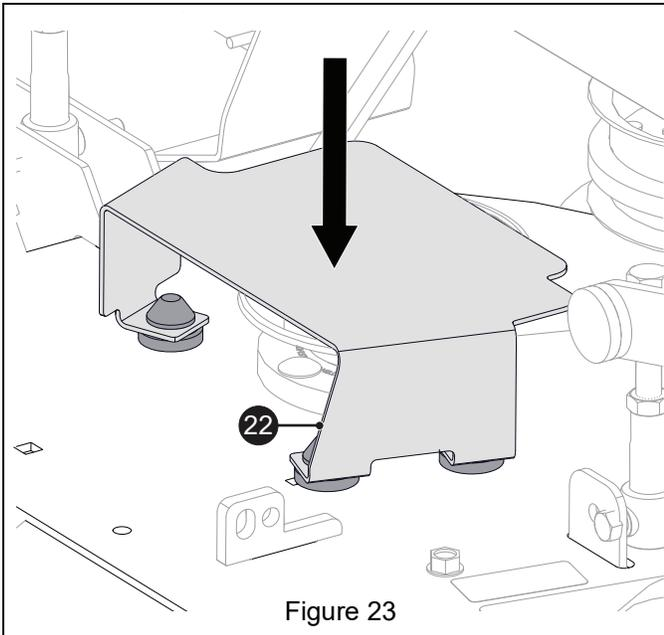

Figure 23
9. Install belt cover (item 22). See Figure 23.